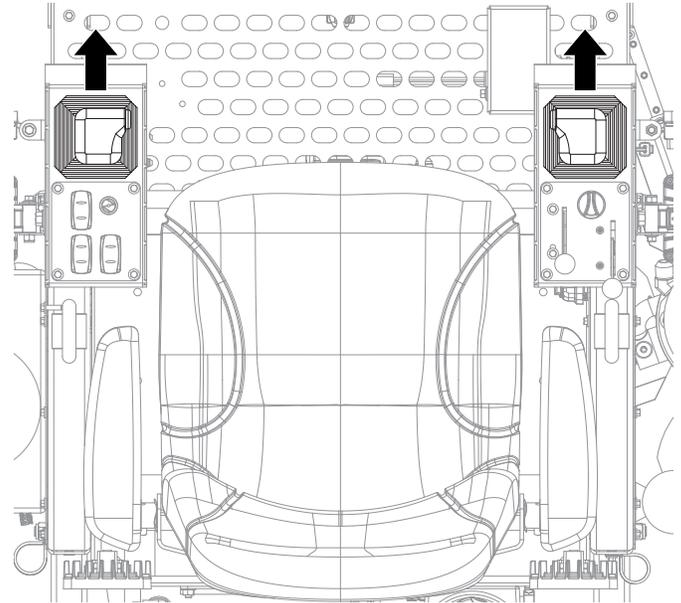

Figure 27. Joysticks (Forward)
3. Push both the left and right joysticks **forward** (Figure 27). Notice that the trowel begins to move in a forward direction. Release both joystick controls to stop forward movement, then remove your right foot from the foot switch to stop blade rotation.